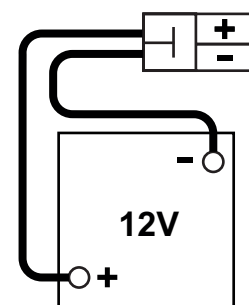

Figure 1
The machine requires one 12 V battery, or two 6 V batteries connected according to the diagram in Figure 1.
- Buy appropriate batteries (see the Technical Data paragraph and the diagram in Figure 1).
- Carefully lift the batteries to the relevant compartment, then place them as shown in Figure 1.
- Route and install the battery cable as shown in the diagrams in Figure 1, then carefully tighten the nut on each battery terminal.
- Place the protection cap on each terminal, then connect the battery connector (36).
- Close the battery and main motor hood (21) and engage the front latch (22).